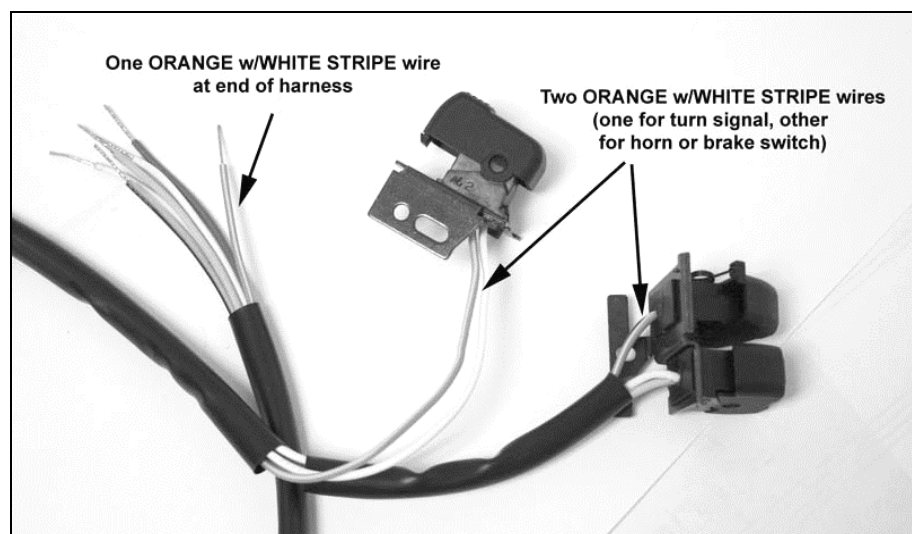

Figure 10—H-D 1996-2003 Hand Control Harness
2. Starting from the main power connector at the MHC, cut a piece of heat shrink tubing long enough so that it extends about 1" past the first branch in the harness. This extra length will allow the tubing for the branches to slide into the main tubing as shown in Figure 10. This creates a smooth transition to the branches.